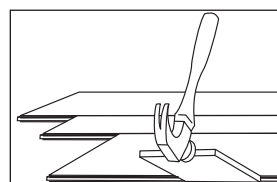

Figure 19
- It may be necessary to align the product with a cut-off piece of scrap as shown (Figure 19 - Keep scrap angle low to avoid edge damage).